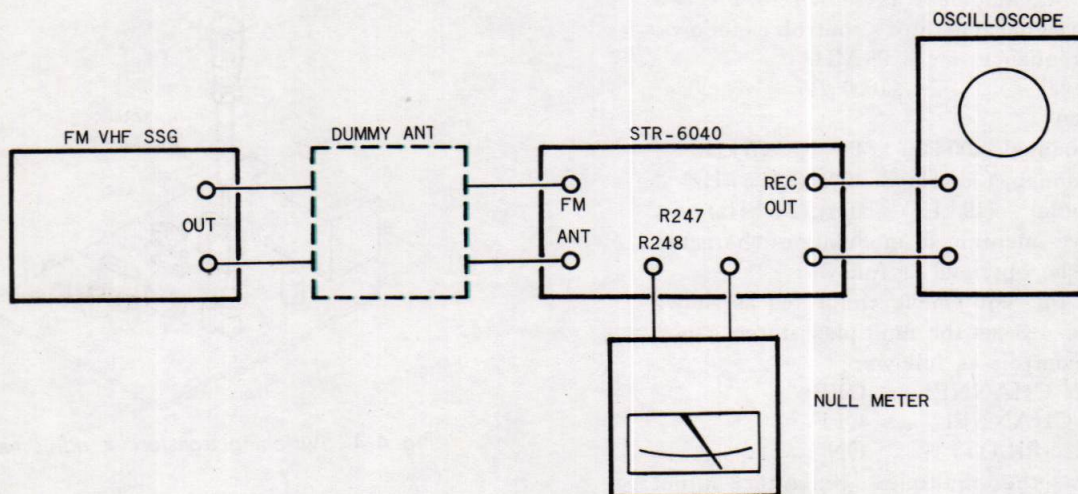

Fig. 4-2 FM discriminator adjustment test set-up
1. With the equipment connected as shown in Fig. 4-2, make sure that the null meter shows a center-scale reading under no signal conditions. If it does not, turn the top core of T201 (discriminator transformer) slightly to obtain zero indication on the meter. In performing this step, watch the oscilloscope and see that it displays only noise.